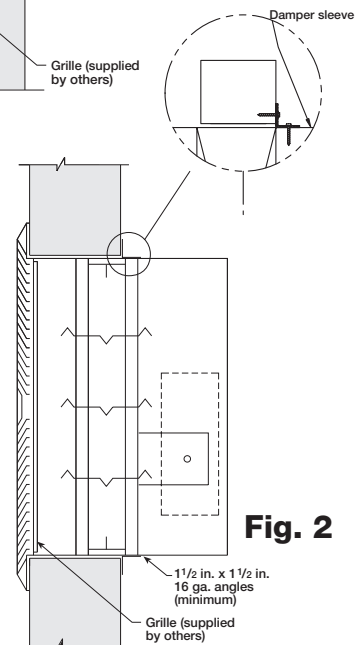

Fig. 2
- Retaining angles must be a minimum of 16 ga. (1.6mm) and have a minimum of 1 1/2 in. x 1 1/2 in. (38mm x 38mm) legs (see **Figure 2**).